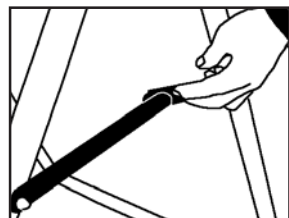

Figure 8
- Pull upward on both of the ridged A-frame spreader arms (See Figure 8). **NOTE: Be careful. This operation may pinch fingers if not done slowly.**